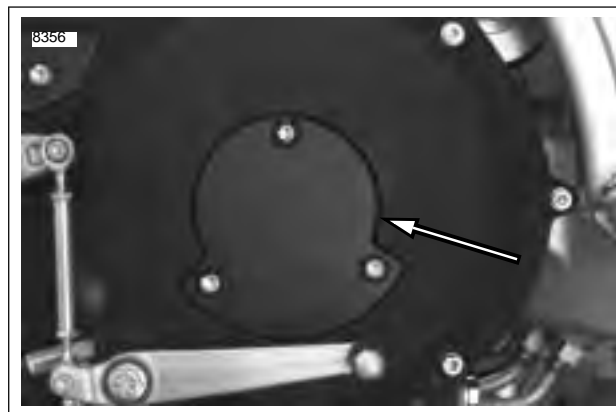

Figure 1-20. Clutch Inspection Cover
8. See Figure 1-20. Install clutch inspection cover tightening three fasteners and washers to 84-108 **in-lbs** (10-12 Nm).
3. See Figure 1-20. Remove three fasteners and washers from clutch inspection cover. Remove clutch inspection cover and gasket from primary cover.
8. See Figure 1-20. Install clutch inspection cover and **new** gasket using three fasteners and washers and tighten to 84-108 **in-lbs** (10-12 Nm).